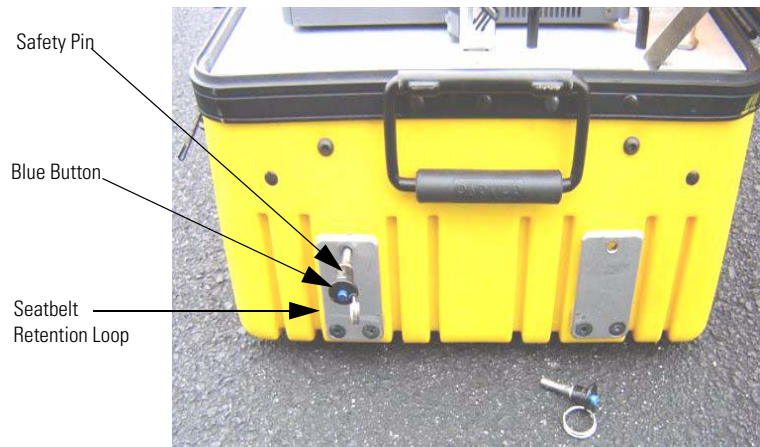

Figure 3.1 Removing the Safety Latch
- 2 Press the blue button on the safety pin, and pull the pin out of the seatbelt retention loop. (See Figure 3.1 on Page 3-2.)